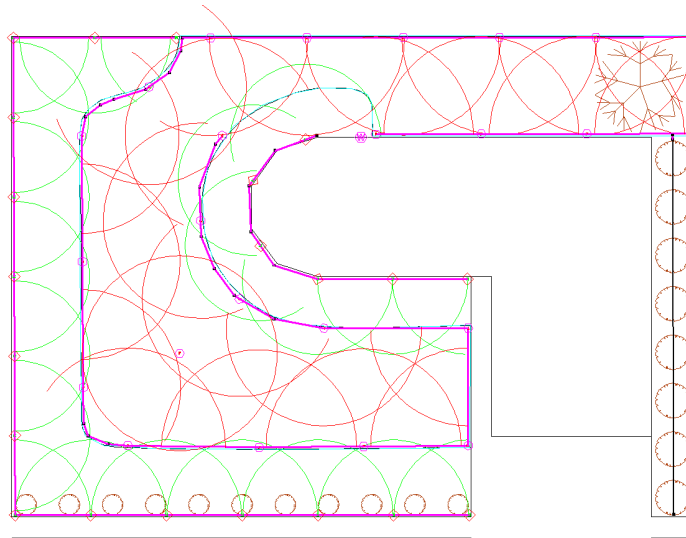

Figure 4-73
37. First we will enter a water supply to signify the tap that will supply the sprinklers. Select *Mainline/Water Supply* and place the water supply on the house wall boundary close to the end of the conservatory garden (see Figure 4-73). In the *Water Supply* dialog enter the “Name” as **Mains Supply 1**, the “Design Head”